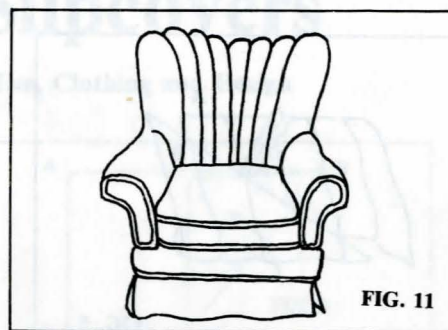

FIG. 11
**Channel-Back Chairs.** The inside back piece usually takes more than one width of material. Sew the two widths of material together before fitting. Anchor the material tentatively across the entire top. The straight of the material usually follows the the top edge. Starting at the center, work the material between channels with your hands, as deep as the channel. Pin a loose pleat at the top. Continue this fitting on each channel around the chair (Figure 11). At the bottom of each channel, sew a tuck if necessary to hold the channel in place.